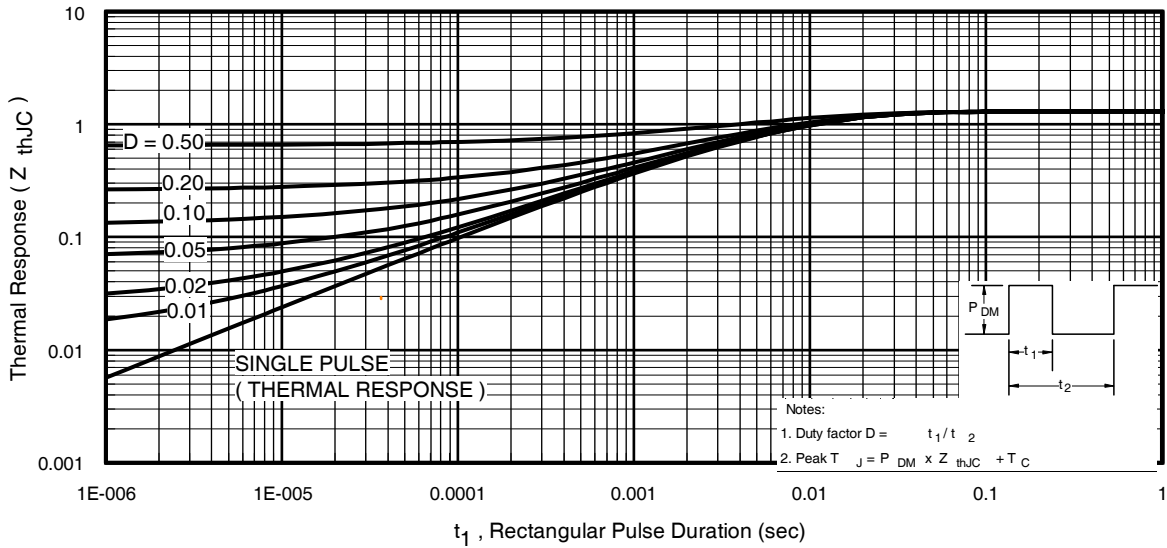
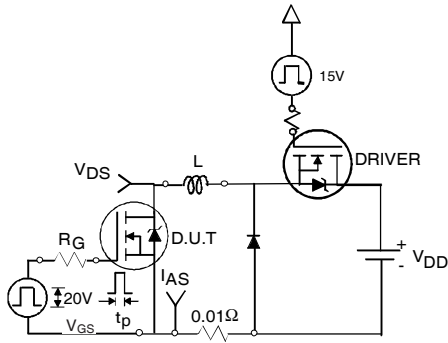

Fig 11. Maximum Effective Transient Thermal Impedance, Junction-to-Case
Fig 12a. Unclamped Inductive Test Circuit
- ① Repetitive rating; pulse width limited by max. junction temperature. (See fig. 11).
- ② Limited by T_{Jmax} , starting $T_J = 25^\circ\text{C}$, $L = 0.71mH$, $R_G = 25\Omega$, $I_{AS} = 23A$, $V_{GS} = 10V$. Part not recommended for use above this value.
- ③ $I_{SD} \leq 23A$, $di/dt \leq 400A/\mu s$, $V_{DD} \leq V_{(BR)DSS}$, $T_J \leq 175^\circ\text{C}$.
- ④ Pulse width $\leq 1.0ms$; duty cycle $\leq 2\%$.
- ⑤ $C_{oss\ eff.}$ is a fixed capacitance that gives the same charging time as C_{oss} while V_{DS} is rising from 0 to 80% V_{DSS} .
- ⑥ Limited by T_{Jmax} , see Fig. 12a, 12b, 15, 16 for typical repetitive avalanche performance.
- ⑦ This value determined from sample failure population, starting $T_J = 25^\circ\text{C}$, $L = 0.71mH$, $R_G = 25\Omega$, $I_{AS} = 23A$, $V_{GS} = 10V$.
- ⑧ When mounted on 1" square PCB (FR-4 or G-10 Material). For recommended footprint and soldering techniques refer to application note #AN-994.
- ⑨ Calculated continuous current based on maximum allowable junction temperature. Package limitation current is 30A.
- ⑩ R_θ is measured at T_J of approximately 90°C .
3. Equation below based on circuit and waveforms shown in Figures 12a, 12b.
$Z_{thJC}(D, t_{av})$ = Transient thermal resistance, see figure 11)